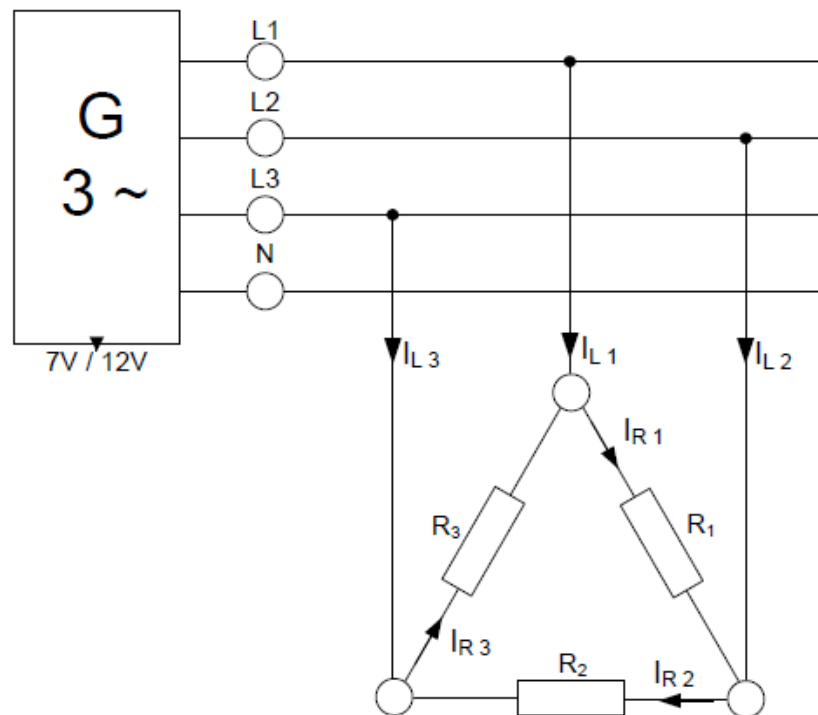

Figure 9.4 Balanced Y-Δ system
- Connect a symmetric load to the circuit as shown in figure 9.4.